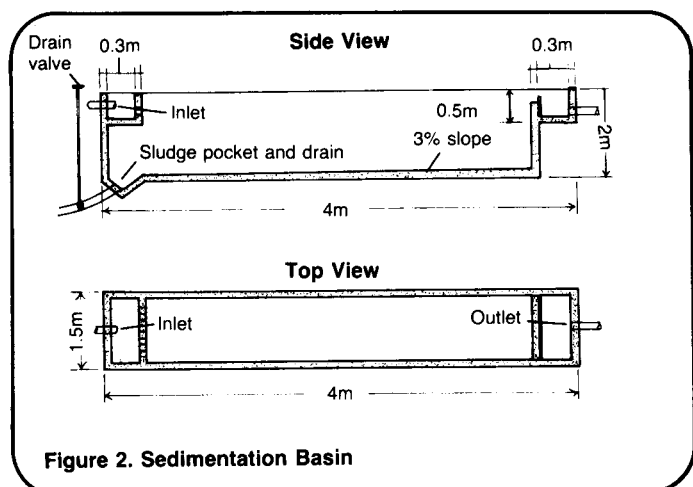

Figure 2. Sedimentation Basin
3. A detailed plan of the sedimentation basin showing all dimensions as shown in Figure 2.
Finally, place a drain pipe at the bottom of the tank as shown in Figure 2. The pipe is necessary for draining the water out of the tank when cleaning it. For all pipes, including inlet, outlet, and drain pipes, 40-50mm polyvinyl chloride (PVC) pipe can be used.
(Dimensions from Figure 2)**